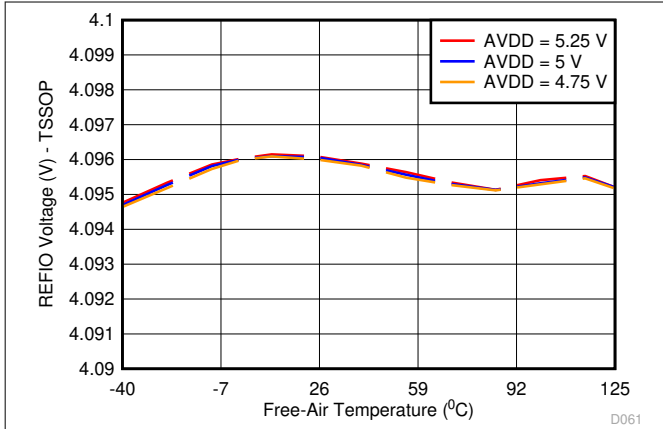

图 7-10. REFIO Voltage Variation Across AVDD and Temperature (PW Package)
The internal reference is also temperature compensated to provide excellent temperature drift over an extended industrial temperature range of  $-40^{\circ}\text{C}$  to  $+125^{\circ}\text{C}$ . 图 7-10 and 图 7-11 show the variation of the internal reference voltage across temperature for different values of the AVDD supply voltage. The temperature drift of the internal reference is also a function of the package type. 图 7-12 and 图 7-13 show histogram distribution of the reference voltage drift for the TSSOP (PW) and WQFN (RUM) packages, respectively.